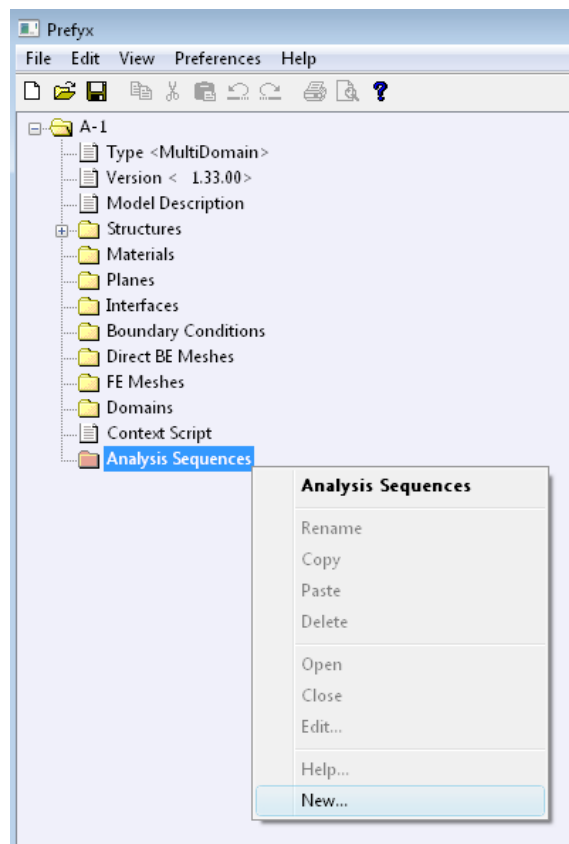

Figure 7.1 Creating new analysis sequence.
- **Create a New Analysis Sequence.** To create a new analysis sequence right-click on **Analysis Sequences** and select **New**. A dialog box with new analysis sequence opens up. Go through all the *tabbed* windows to modify analysis parameters. To accept changes click OK. (Figure 7.1)